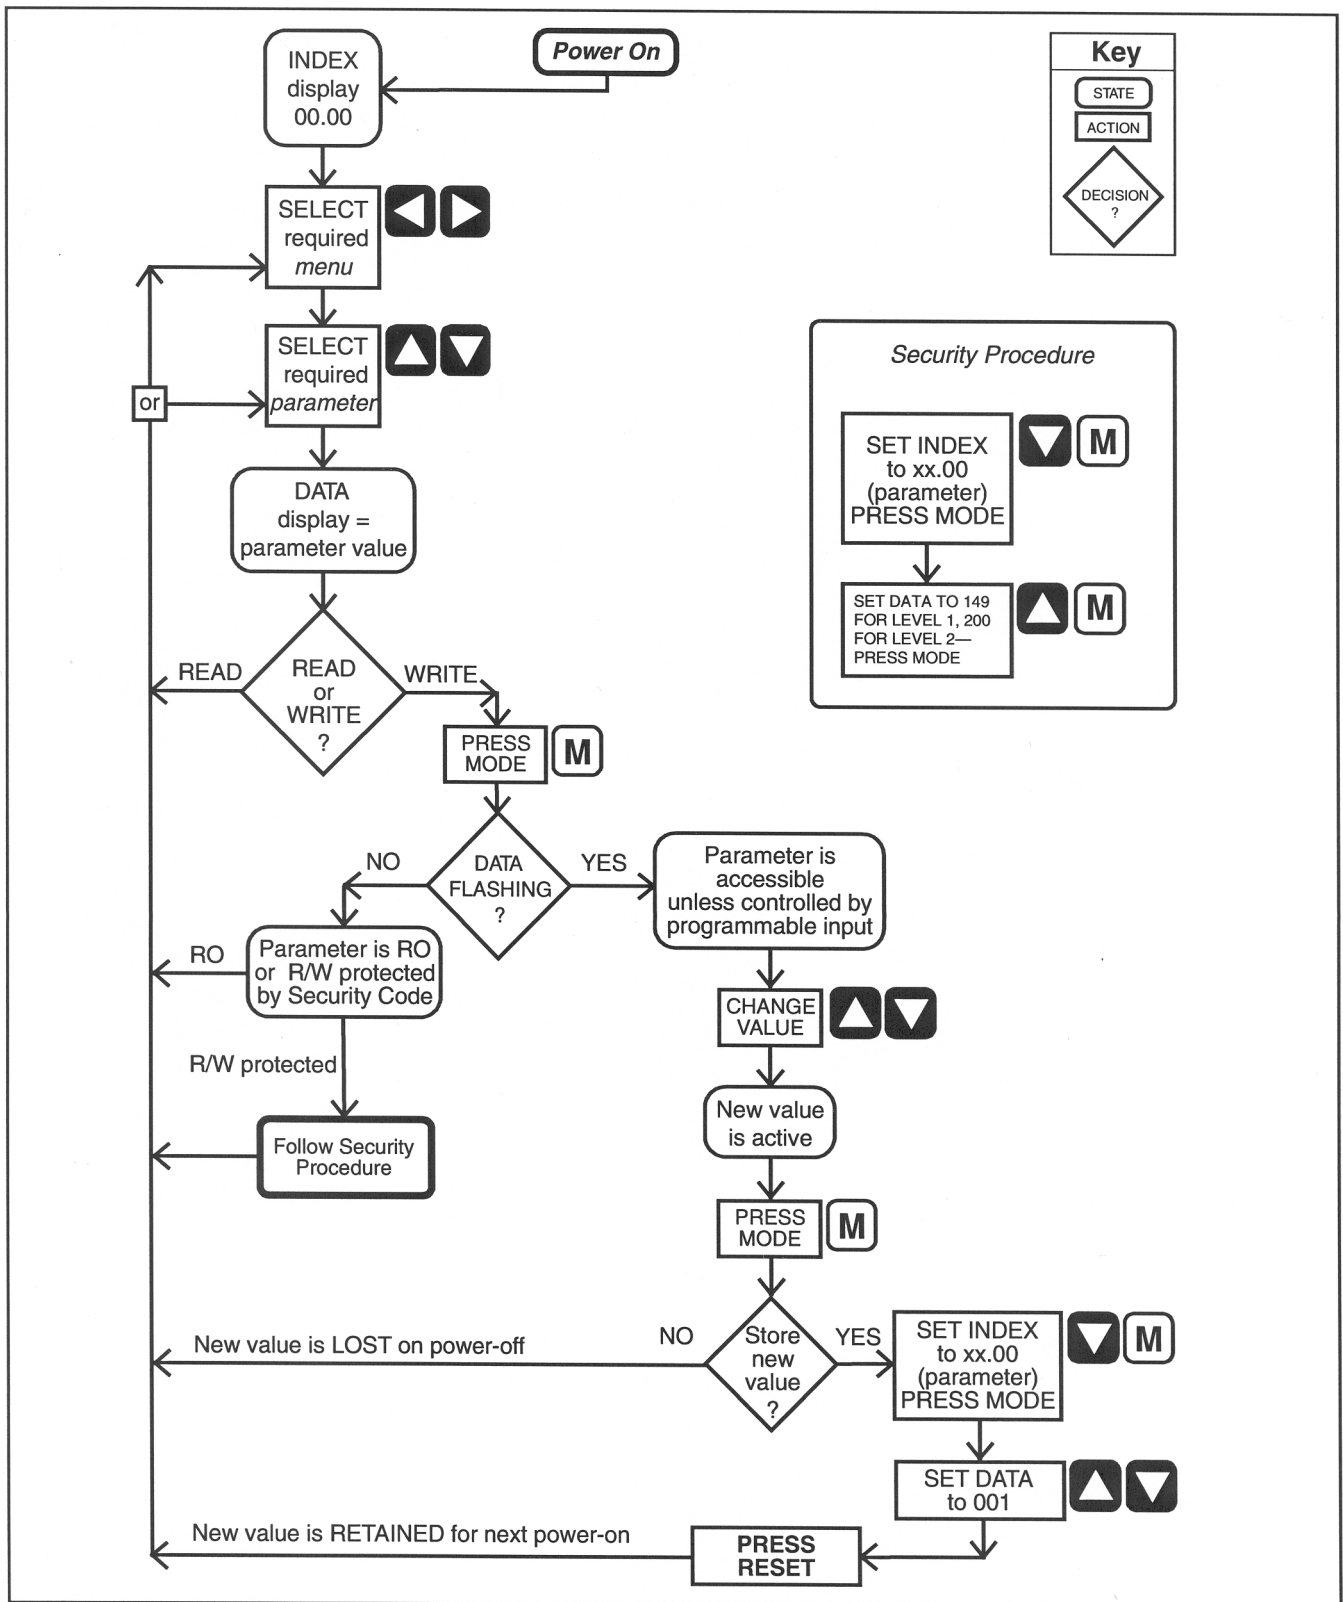

Figure 10-2.
The procedure for selecting and changing a parameter is shown in Figure 10-2 and described on the following pages. It is also described on the keypad of the Quantum III.
10.5.2 Level 1 Security to Access the Visible R/W Parameters (Figure 10-2)
10.5.3 Level 2 Security to Access the Invisible R/W Parameters (Figure 10-2)